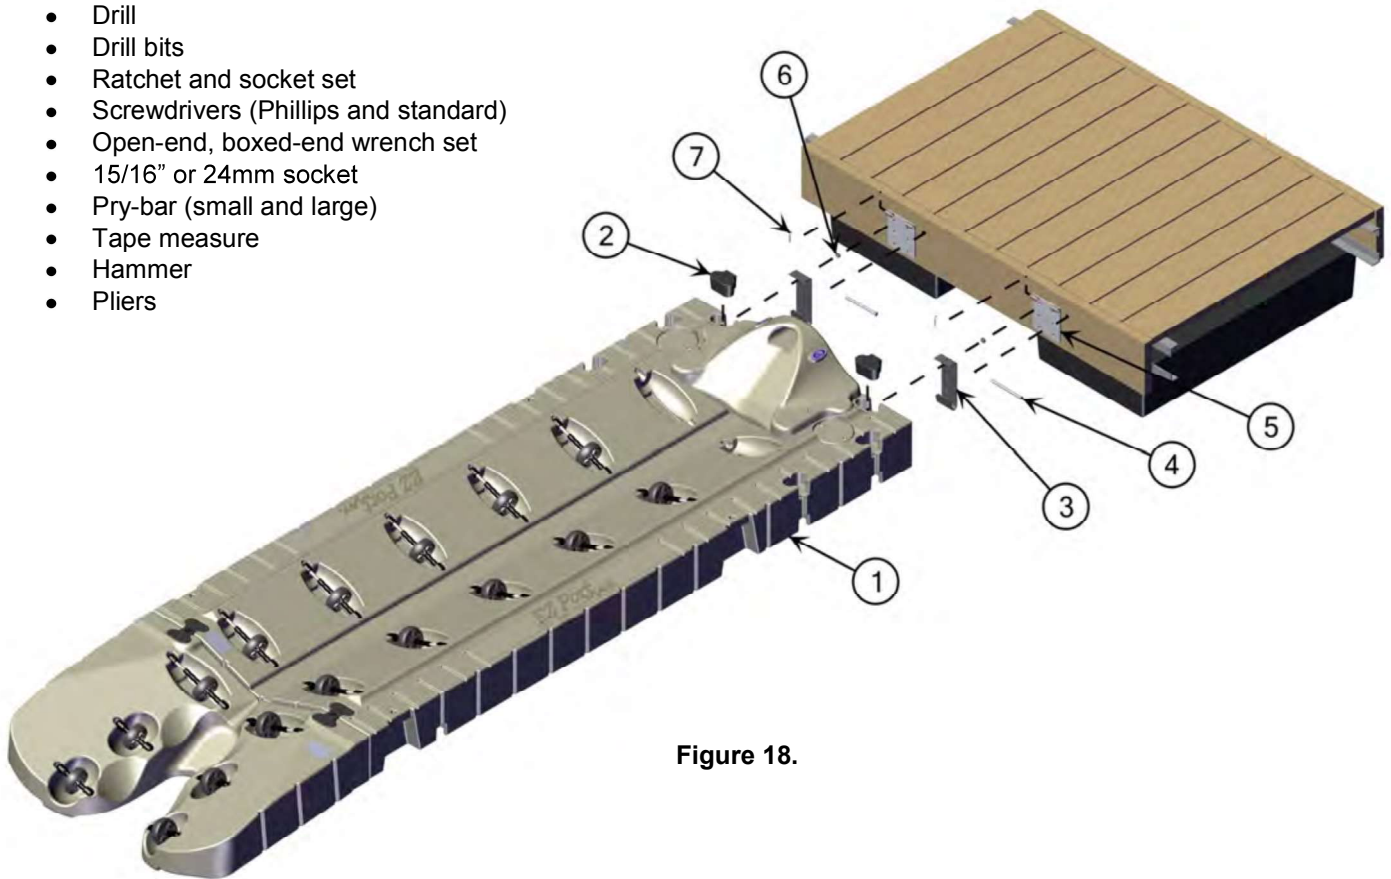

Figure 18.
2. Determine the best position for the hinge adapter plate. The plate can be above (Figure 17), perpendicular, or directly in front of the hinge adapter bracket, (Figure 18).